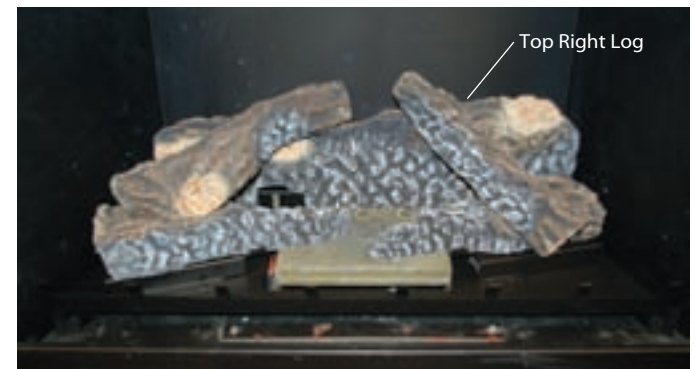

Figure 8e. Top right log placement.
**Step 5.** Place the top right log as shown in **figure 8e**. A notch is provided on the front right log, and a impression in the Rear bottom log.